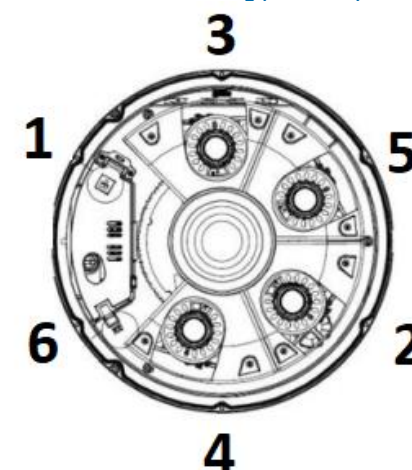

Figure 9
17. Use a screwdriver and approximately **75%** tighten each of the six-bubble trimming screws identified with a number in Figure 9.
Note: Figure 9 is a birds-eye view of the camera **with** the bubble trim-ring attached (as a result, the inside of the camera is not visible).
- **If the trim ring screws are tightened in a 'ring' pattern, there is potential that the trim-ring will not align correctly with the camera seal, allowing water to penetrate the camera body. When fitting the bubble trim-ring, it is important that the screws are tightened in a 'star pattern' as per the numbers in Figure 9.**